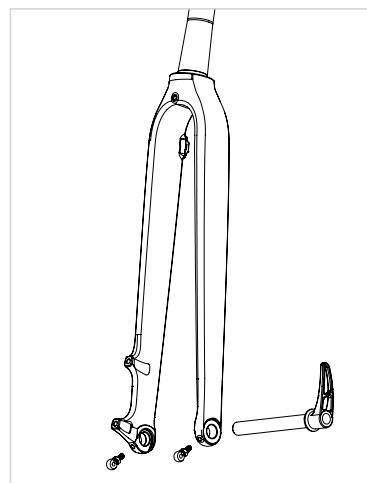

Figure 2
3. Thread M5 nuts onto fender mounts (fig. 2).